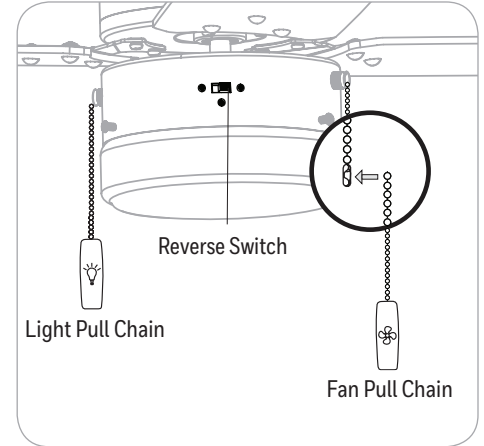

Figure 5.9
9. Attach the pull chain extensions to the pull chains. **Note:** When facing the reverse switch, the light pull chain is on the left and the fan pull chain is on the right (Figure 5.9).